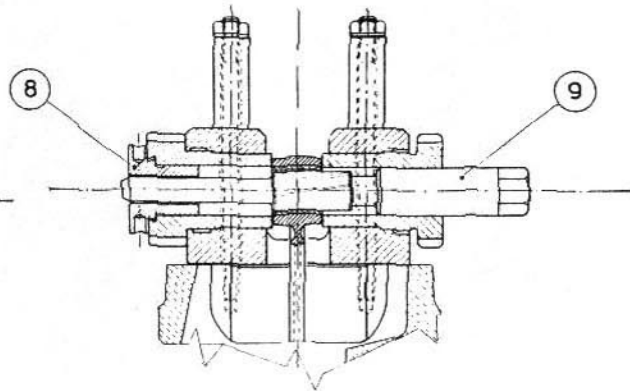

Fig. 41
- Fit reamer (9) eccentric guide bush (8) into body (3) as illustrated in fig. 41.